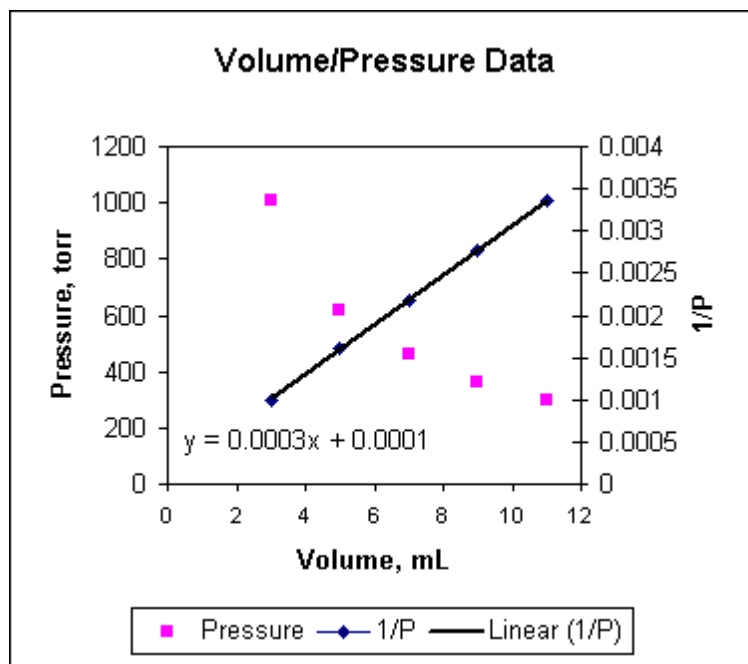

Figure 4.
1. In the P/V Excel file, create a column of 1/P values for each value of P. Do this by first typing in the formula, $=1/\text{cell designation}$, in the cell to the right of the first value of P. The cell designation is the letter-number designating the cell in which the first value of P is located. For example, if this value is in column C and row 4, the formula, $=1/C4$, would be typed into cell D4. Enter this formula to verify that the value calculated is indeed 1/P. Then highlight, copy and paste the formula into the rest of the column adjacent to the P values. The table should look like the one shown in Figure 4.
4. Highlight the 1/P points and add a trendline for this plot, adding the equation for the line on the graph. At this point, your table and graph should look like Figure 4.